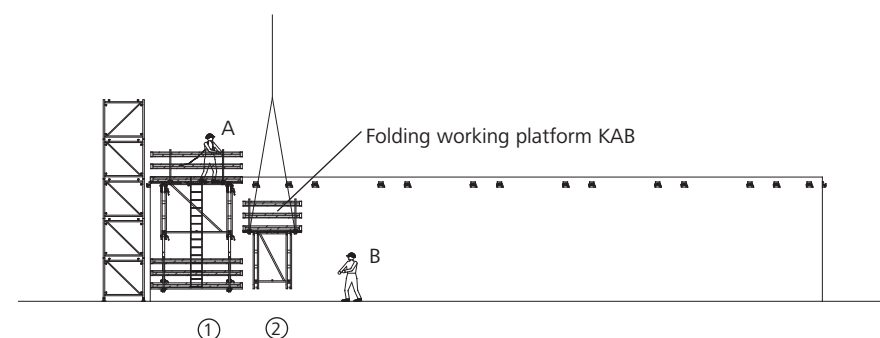

Fig. 27.2
2. On the ground, person B attaches the crane sling to a working platform KAB (2). Using the crane, the platform (2) is moved to the wall (Fig. 27.2), suspended in the suspension shoe KAB and secured by person A to prevent it lifting out (see page KAB-12). Person A then detaches the crane sling.